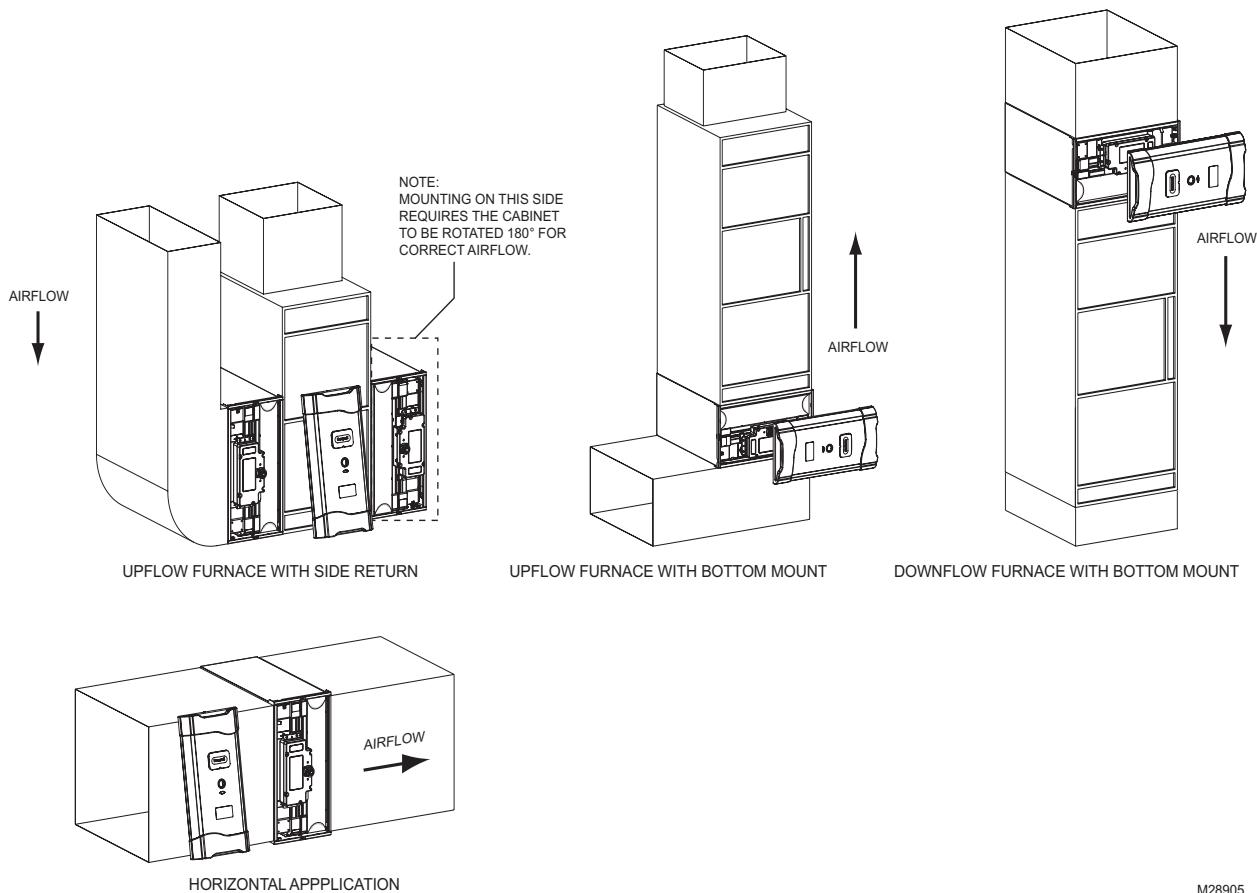
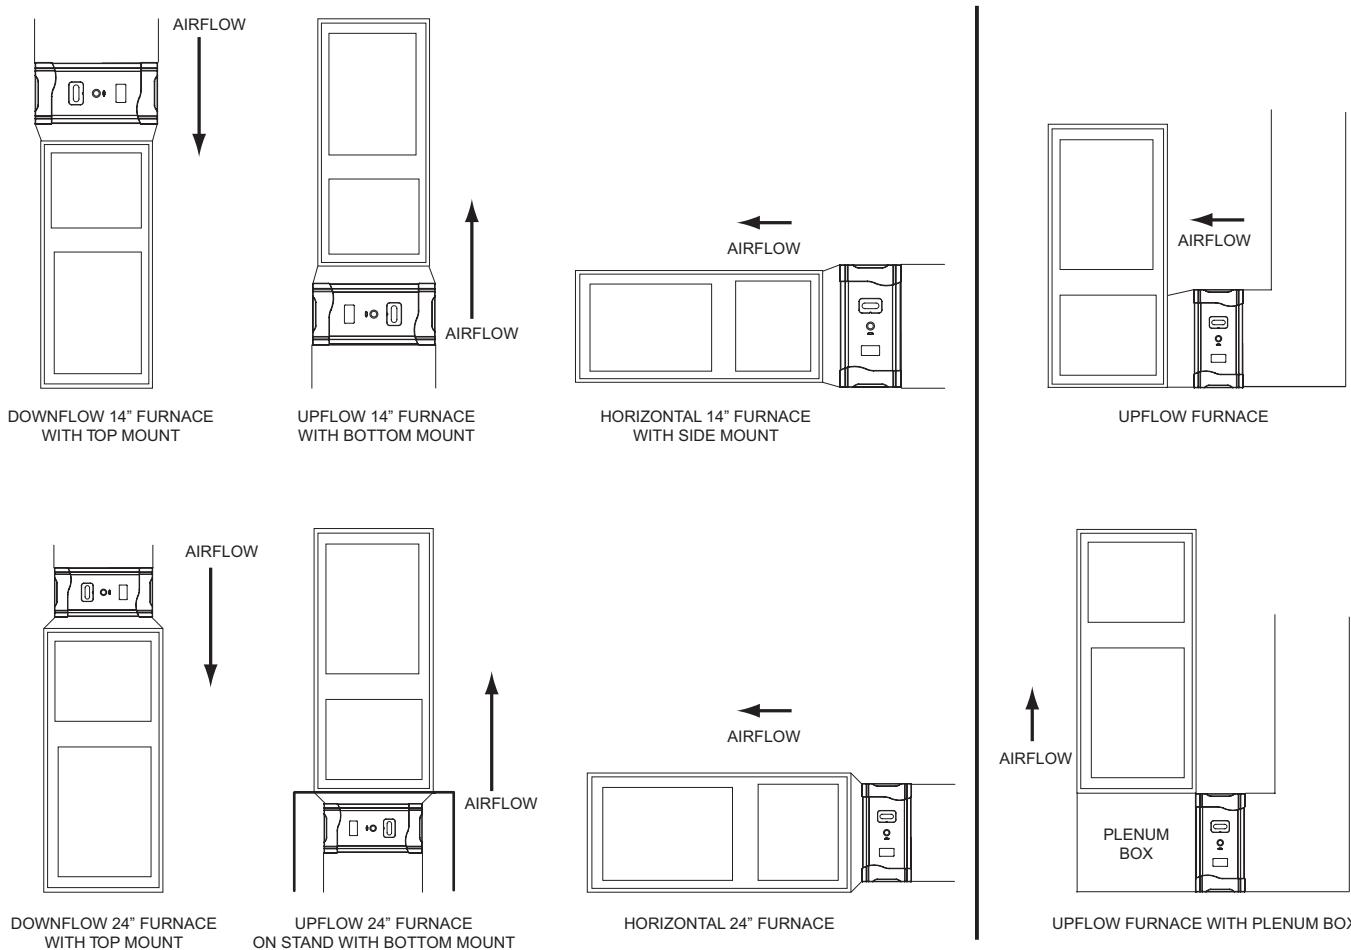
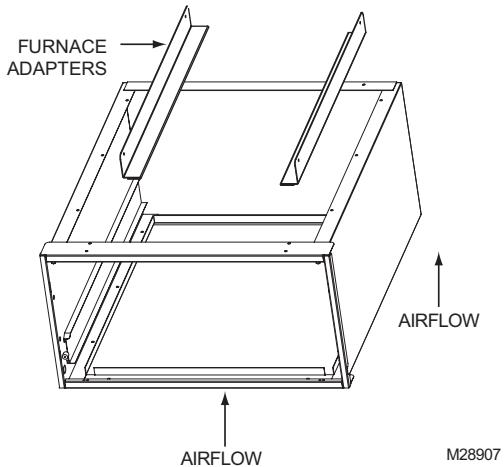
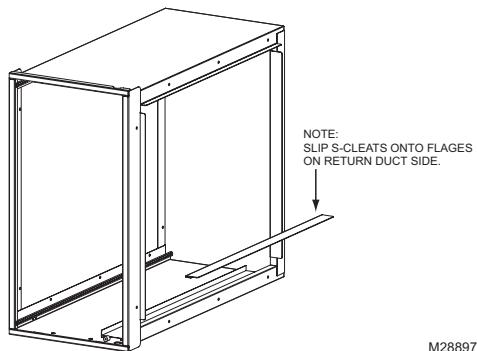

Fig. 7. Cabinet Orientation for FH8000F models.
Fig. 8. Cabinet Orientation for FH8000F with Transition.
Fig. 9. Use of Furnace Adapters.
Fig. 10. Use of Return Duct Adapters.
- a. Identify a mounting orientation for the Honeywell Enhanced Air Cleaner in the return air duct. See Fig. 7 and Fig. 8 on page 11.
- d. Position the cabinet between the furnace and return air duct (see Fig 7 on page 10, Fig. 8 on page 11, Fig. 9, and Fig. 10 on page 13). A transition duct may be required.
- e. Furnace adapters have been included for installer convenience. They are designed for top or bottom mount installations (see Fig 9).
- f. Return air duct adapters have been included for installer convenience. They should be used to connect the upstream side of the Honeywell Enhanced Air Cleaner cabinet to the return air duct (see Fig. 10).